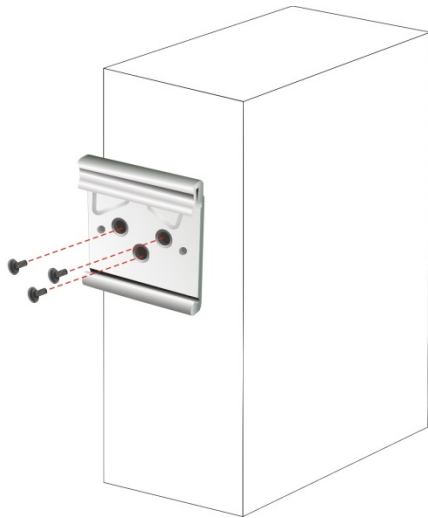

Figure 3-26: DIN Rail Mounting Bracket Installation
- Step 1:** Attach the supplied DIN rail mounting bracket to the rear panel of the embedded system. Secure the bracket to the embedded system with three retention screws (Figure 3-26).